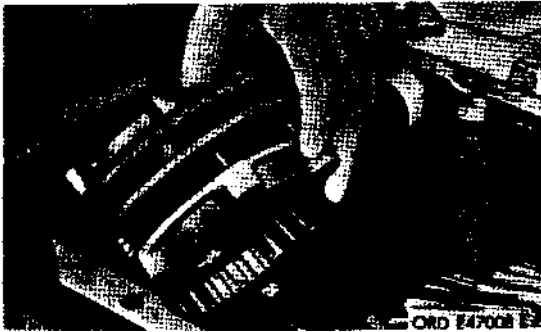

Figure 252. Remove fourth and fifth speed gear synchronizer from main shaft
- (d) Slide main shaft assembly with gears to the rear of the transmission case and lift out fourth and fifth speed gear synchronizer (fig. 252).